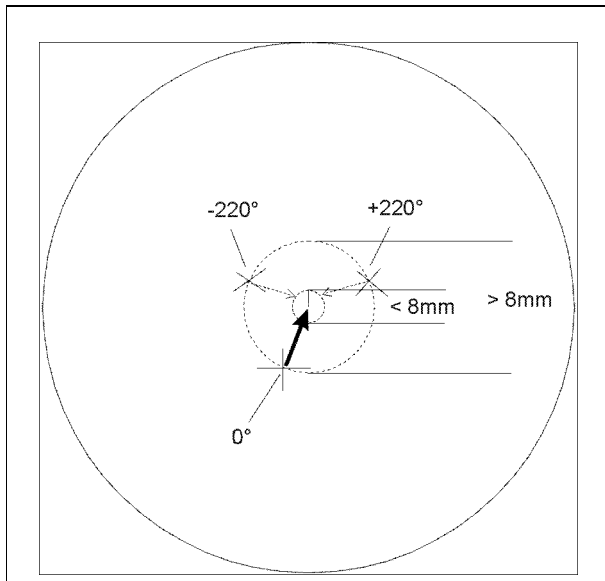

Fig. 9
- Mark the center of the washer or lead cross on the monitor (see Fig. 9).
- Mark the center again on the monitor (see Fig. 9).
- Move the camera optics toward the center, between both $+220^\circ$ and -220° markings (see also Fig. 9).